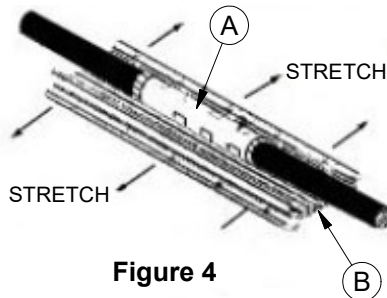

Figure 4
4. Prestretch gel wrap sleeve as shown in Figure 4. Warming the sleeve will make it easier to install in cold weather.